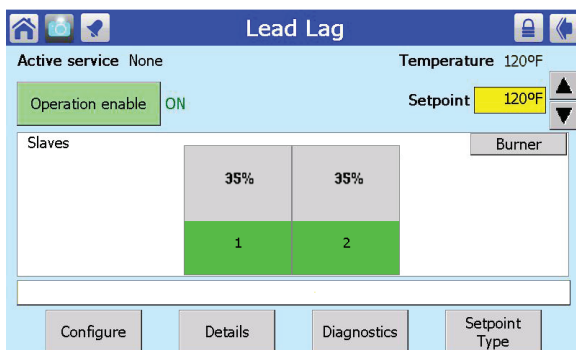

Fig. 125 – Lead/ Lag Master Screen
- Press the Lead/ Lag Master button. Figure 125 shows the Lead/ Lag Master screen.